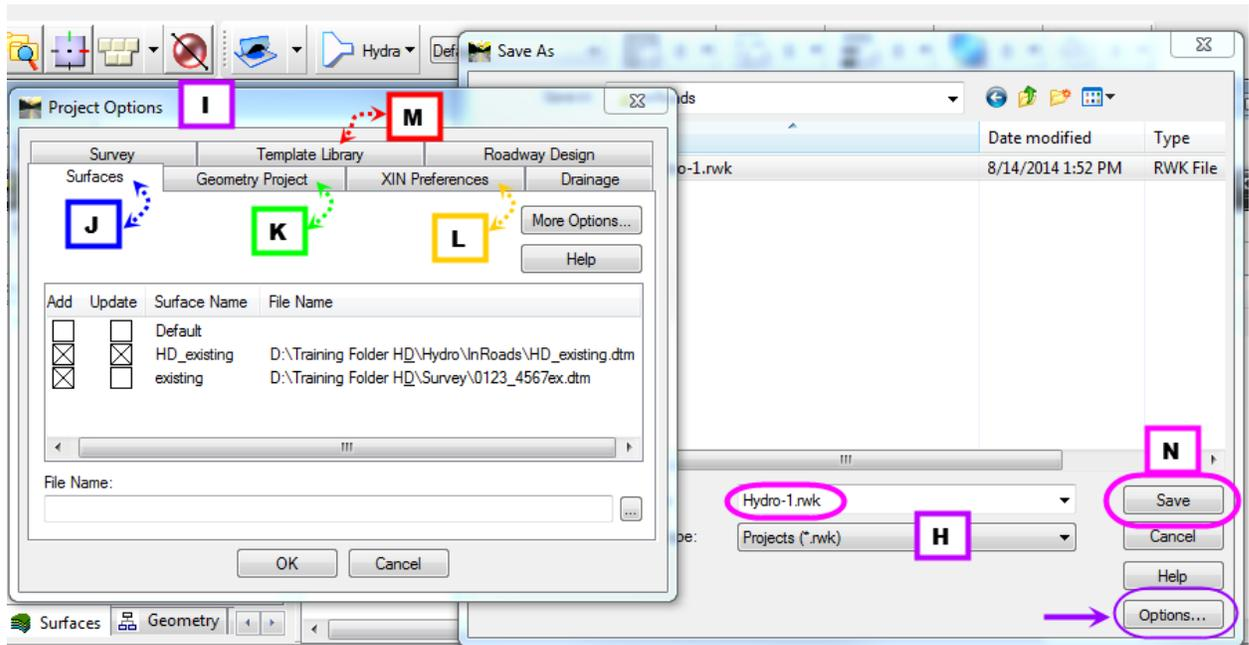

Figure 8 - Save *.rwk File
- H. Save files in the RWK (Project), see Figure 8. Click to **File > Save As** on the InRoads Main Menu. Select the Save as type: **Projects (*.rwk)**.
- L. Click on **File > Save As**. Save as type: select **Projects (*.rwk)**, select **Hydro-1.rwk** previously created. Click on **Options...**, on the Surfaces Tab click on **Add** and **Update** for the **HD-existing** surface. Click **OK**. In the Save As dialog box click **Save**. Question: File already exists, do you want to replace? May come up, Click **Yes**. Then **Cancel**. Also see Figure 8.